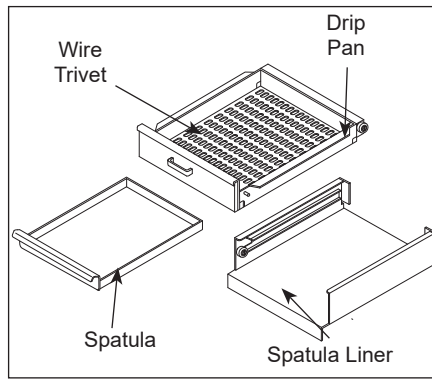

Figure 1. Washing Parts (MS-150 Only)
4. **MS-150:** Remove and wash the Wire Trivet, Spatula, Spatula Liner, and Drip Pan (Figure 1) in soap and water. Rinse with clean hot water and allow to air dry.